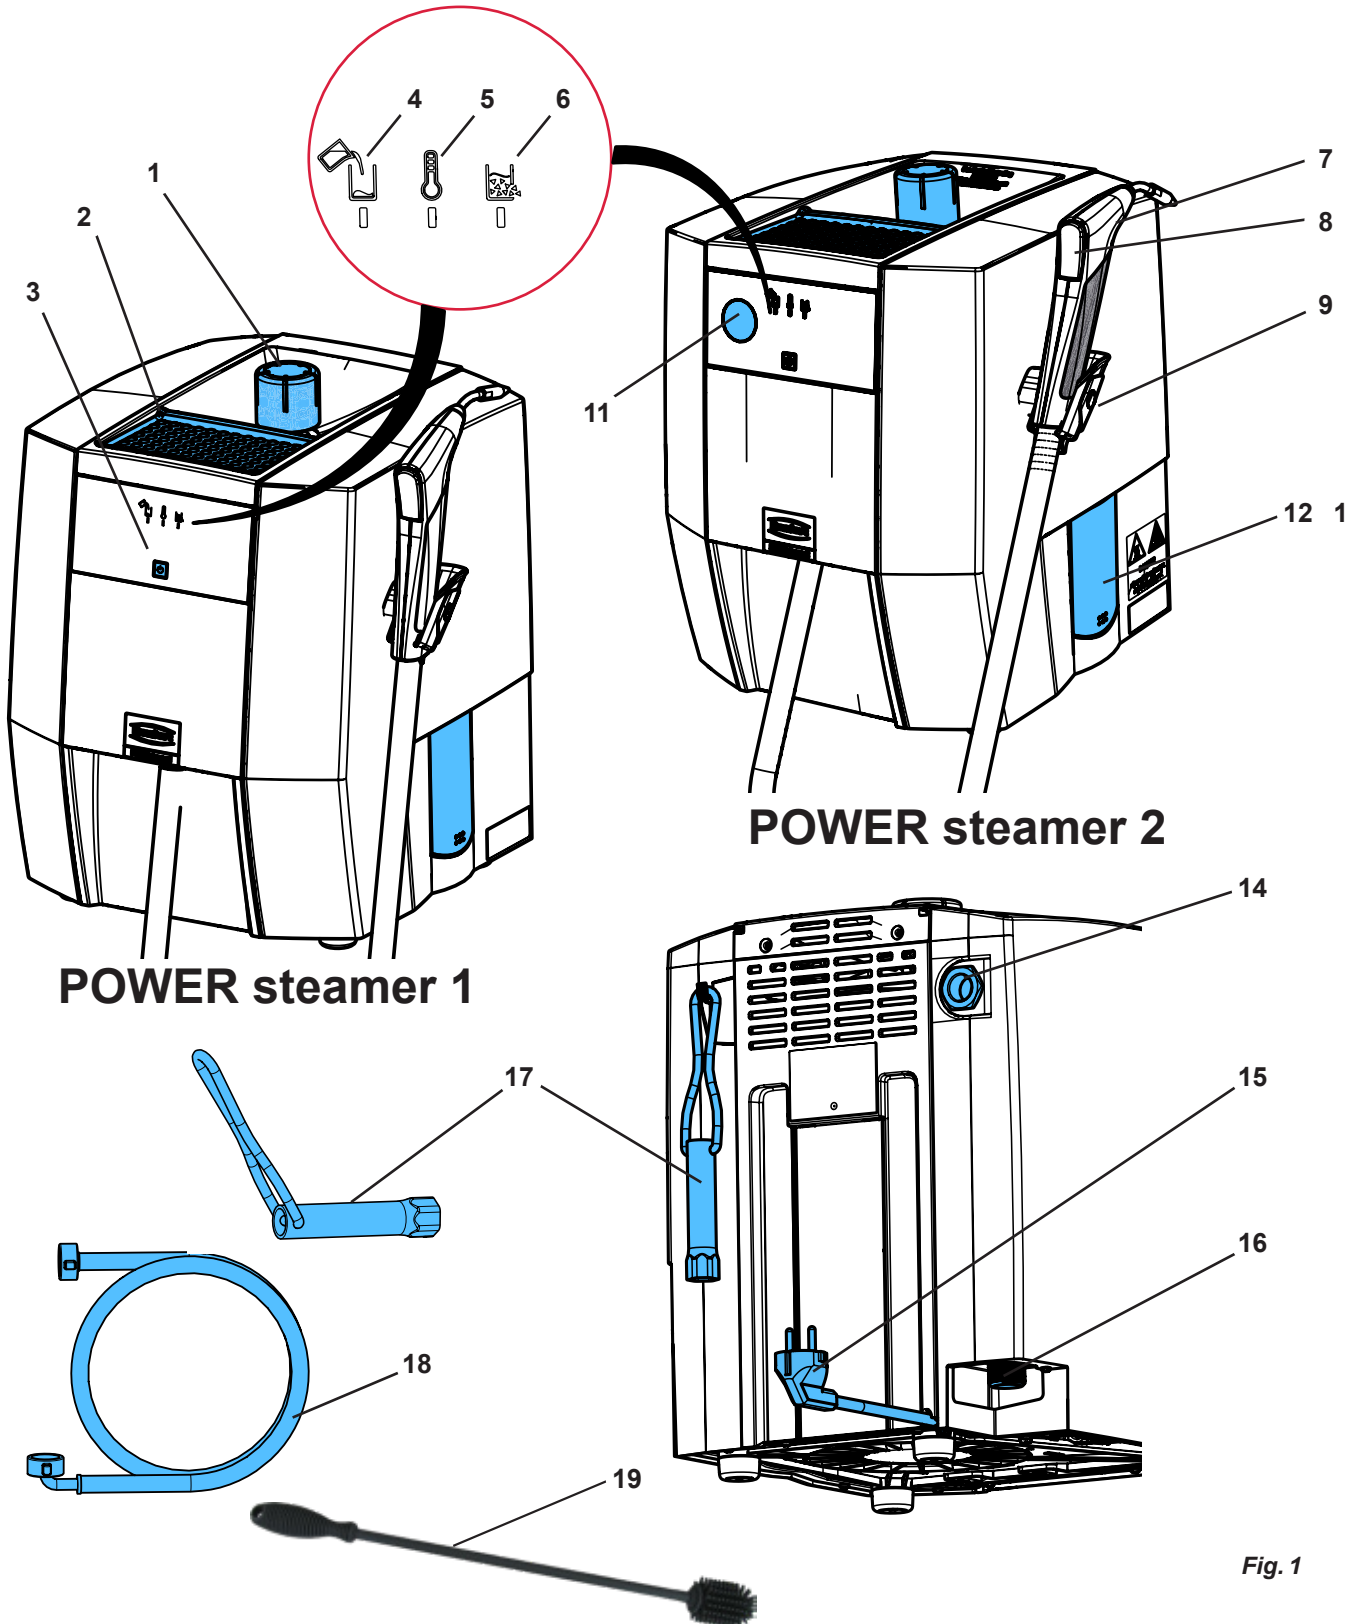

Fig. 1
- ▶ Place the unit so that there is no risk if steam is discharged from the outlet opening of the over-pressure valve (14, Fig. 1).
Plaster models or investment models can be left to dry on the model tray (2, Fig. 1).
⇒ Screw in the tank cap (1, Fig. 1).
Place the unit so that there is no risk if steam is discharged from the outlet opening of the overpressure valve (14, Fig. 1). For example, do not place the unit in front of an electrical socket.
The outlet opening of the overpressure valve (14, Fig. 1) must not be closed or blocked in any way.
Danger due to pressurized steam! Before opening the revision cap, ensure that the pressure tank is no longer pressurized. To do so, open the tank cap (1, Fig. 1) and remove it.
- ⇒ Place the unit so that water can flow from the service opening (12/13, Fig. 1) into a sink.